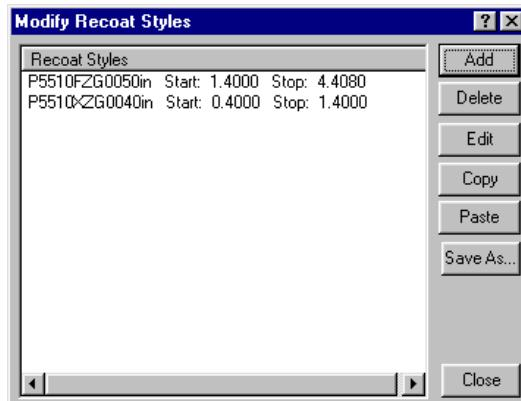

Figure 90. Modify Recoat Styles Dialog with Added Recoat Style
- 5. Click the... button to add the recoat style into the "Modify Recoat Styles" dialog (Figure 90).**